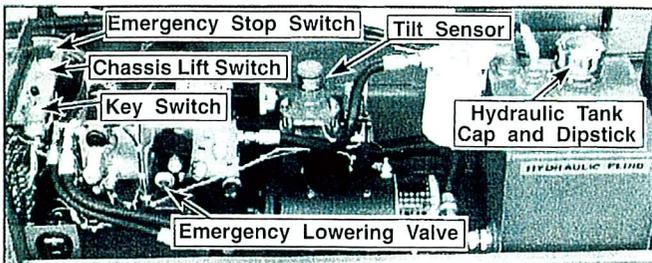

Figure 1: Chassis Control Module
2. Check the level of the hydraulic oil with the platform fully lowered. Oil should be visible on the dipstick (Figure 1). Add ISO #46 hydraulic oil if necessary.
9. Turn Chassis and Platform Emergency Stop Switches ON (Figure 1) by pulling the button out.
10. Turn the Chassis Key Switch (Figure 1) to **CHASSIS**.
11. Push Chassis Lift Switch (Figure 1) to **UP** position and fully elevate platform.
13. Check Level Sensor (Figure 1) operation by pushing the Chassis Lift Switch to **LIFT** while another person pushes the sensor off of level, the alarm should sound.
15. Open the Chassis Emergency Lowering Valve (Figure 1) to check for proper operation by pushing in on the knob and turning ¼ turn counterclockwise. Once the platform is fully lowered, close the valve pushing in on the knob and turning ¼ turn clockwise until the detent engages.
Ask a person on the ground to open the Emergency Lowering Valve (See Figure 1) to lower the platform. This valve is located through the cutout in the Chassis Module cover on the left hand side of the chassis.